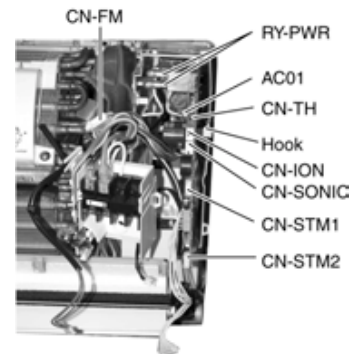

Fig. 4
- Release the CN-TH connector. (Fig. 4)
- Release the CN-ION connector. (Fig. 4)
- Release the CN-SONIC connector. (Fig. 4)
- Release the CN-STM1 connector. (Fig. 4)
- Release the CN-STM2 connector. (Fig. 4)
- Release the hooks that hold the Electronic Controller and pull out the Electronic Controller. (Fig. 4)
- Release the CN-FM connector. (Fig. 4)
- Release the AC01 (white) connector. (Fig. 4)
- Release the two RY-PWR connector. (Fig. 4)